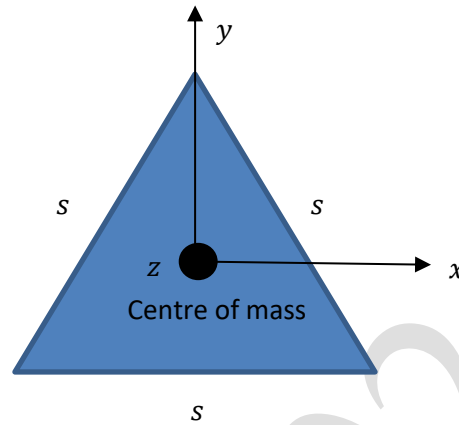

Figure 3.1: Equilateral triangle
3. Calculate the mass moments of inertia, I_{xx} and I_{yy} (with respect to the centre of mass) of a solid long rod of length l , with an equilateral triangular cross-sectional area, as shown in Figure 3.1. The mass of the rod is m , and the density is ρ .